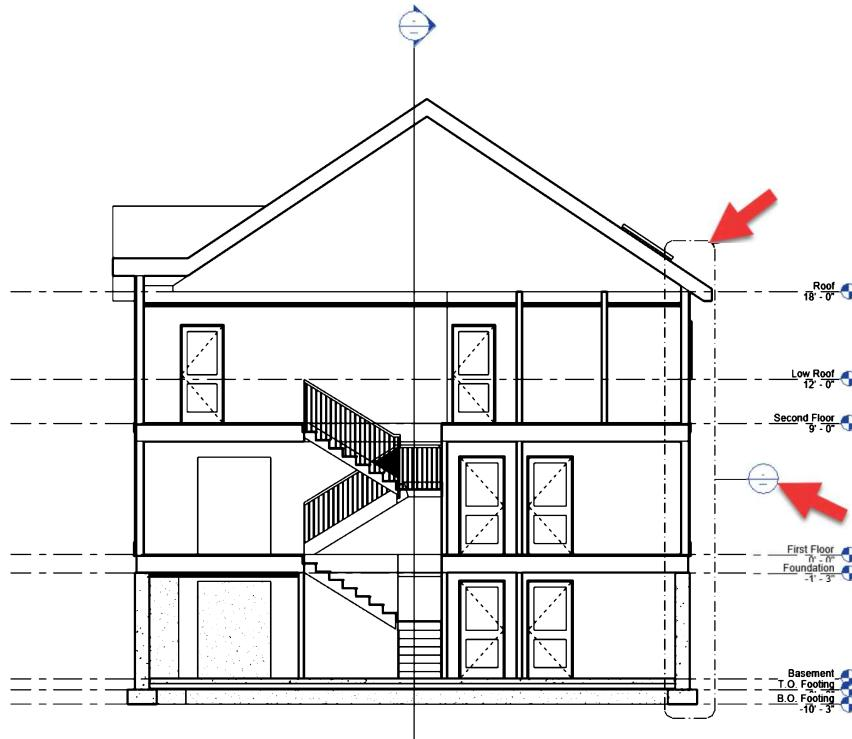

FIGURE 11-3.1 Cross Section 1 view with Callout added
4. Place a **Callout** as shown in Figure 11-3.1.